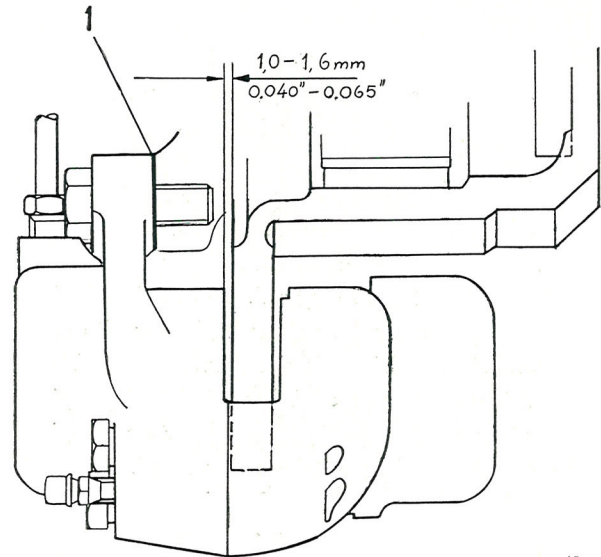

Fig. 4-121. Clearance between brake caliper and disc
5. Fit the brake discs and the brake calipers. N.B. There should be a clearance of 1.0—1.6 mm (0.040"—0.065") between the inner edge of the brake disc and the inner edge of the brake caliper. On the right-hand side, this clearance is altered by adjusting the axial play of the drive shaft. The clearance should, therefore, be checked and, if necessary, adjusted when working with the drive shaft on the right-hand side. The clearance is adjusted with shims, see Fig. 4-121, which are available in thicknesses of 0.6, 1.2 and 1.8 mm (0.024, 0.048 and 0.072"). On the left-hand side the correct clearance is obtained without shims. Fit the brake pipes.